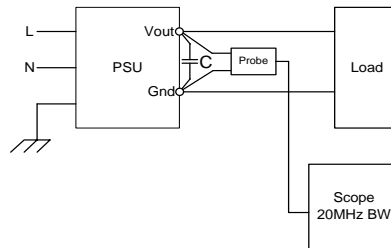

Figure 19. Output Ripple Test Setup
- a) Outputs bypassed at the point of measurement with a parallel combination of 10μF tantalum capacitor in parallel with 0.1μF ceramic capacitors, referring the setup in Figure 19.